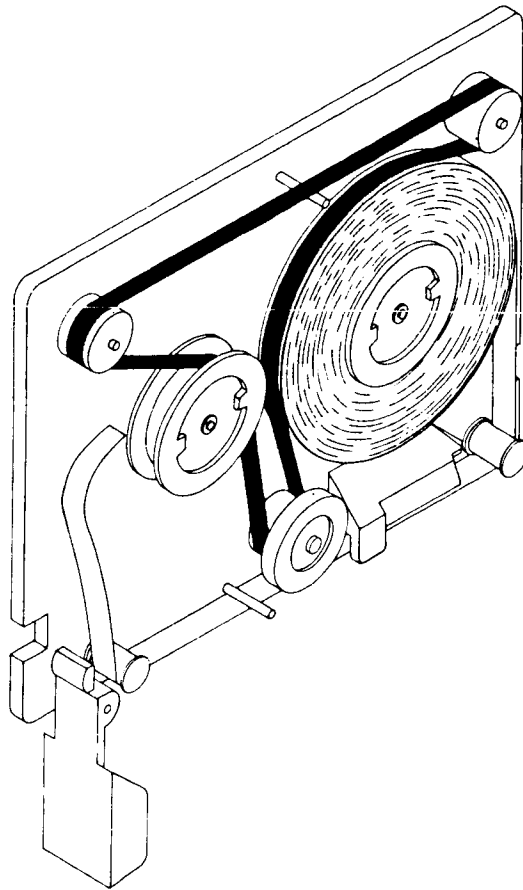

Figure 1-7. Tape Cartridge
It is a good idea to remove a tape cartridge from the computer when the computer is not in use. The tape transport capstan may develop a temporary flat spot if a tape cartridge is left in the computer for a long period. This could cause errors when using the tape. The temporary flat spot can be corrected by running to the end of the tape (fdf 9999) and rewinding again. Figure 1-7 shows the tape in its rewound condition.
- Thread the tape around the tape guides as shown in Figure 1-7.